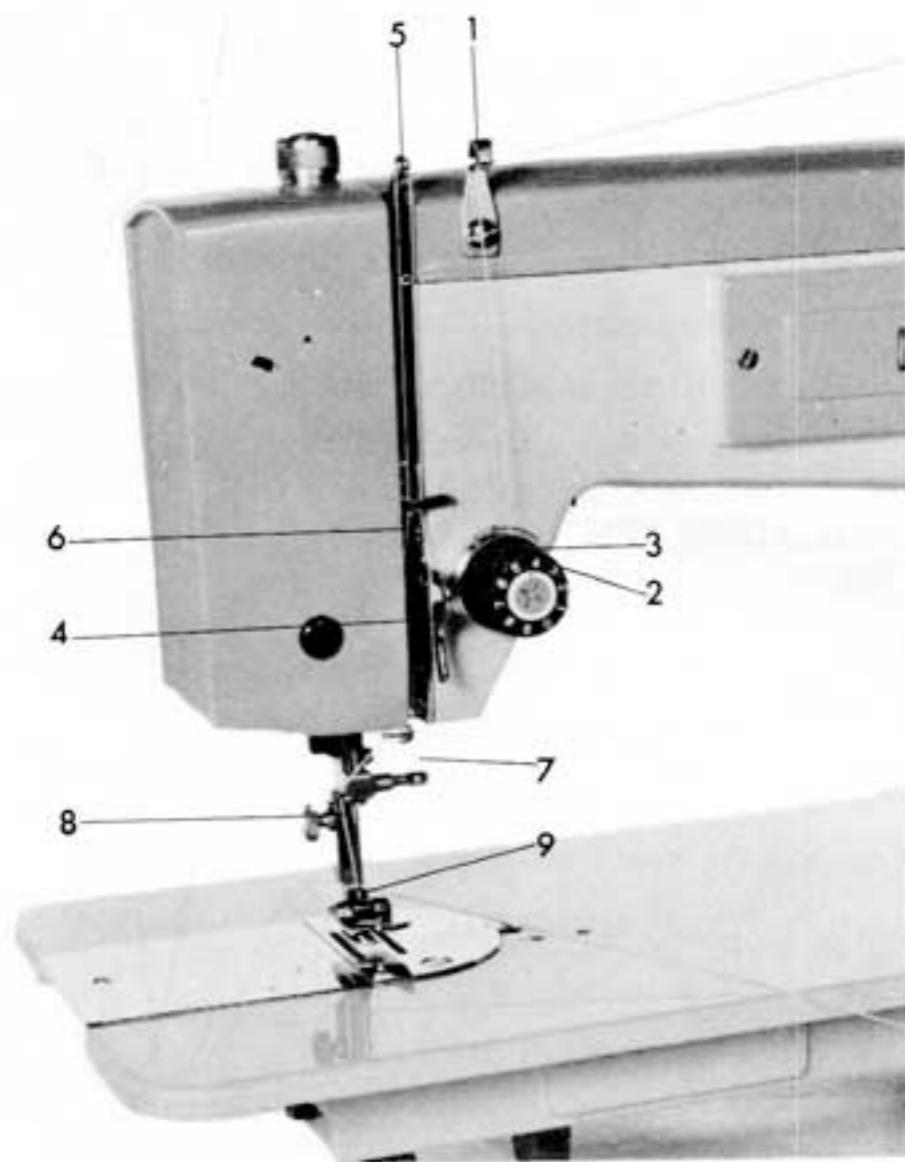

Fig. 4
Place a spool of thread on spool pin and raise the take-up lever to its highest point. Refer to Fig. 4. Pull thread through slot of upper thread guide (1) down through tension discs (2) up into thread check spring (3) under the thread retainer (4) and on up into the eye of the take-up lever (5) from right to left. Return thread through lower grid (6) down through lower guide (7) and into needle bar thread guide (8). Thread needle from left to right, pulling about four inches of thread through needle.
Zie fig. 4